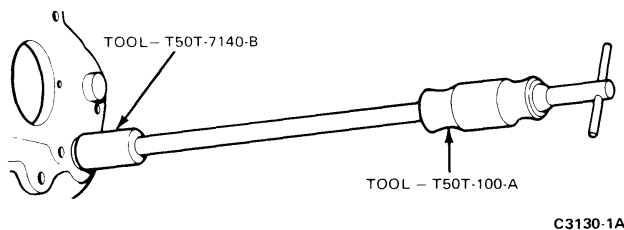

FIG. 12 Removing Reverse Idler Gear Shaft
14. Remove the reverse idler gear shaft, using the tools shown in Fig. 12.